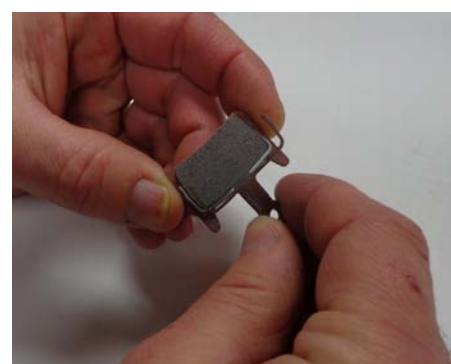

Figure 3
- 12) Place the leaf spring onto one of the brake pads so that the spring feet are on either side of the pad material (see Figure 3).